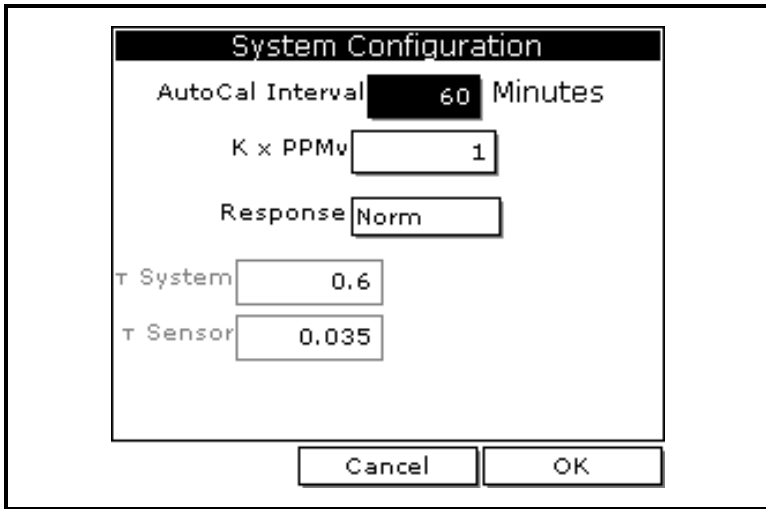

Figure 4-4: The System Configuration Window
3. Use the arrow key to scroll to **System** and press [ENTER]. A screen similar to Figure 4-4 on the next page appears.